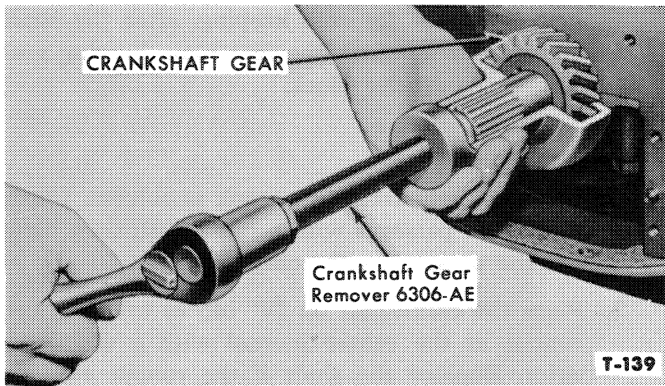

Figure 63—Removing Crankshaft Gear
1. Remove the crankshaft gear with Remover 6306-AE as shown in Figure 63.